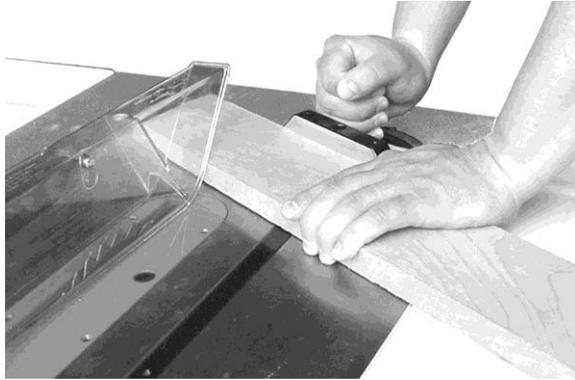

Figure 8-12
**Mitering** – Crosscuts made at an angle to the edge of the workpiece are called miters (Figure 8-12). Set the miter gauge at the required angle, lock the miter gauge, and make the cut the same as a normal crosscut except the workpiece must be held extra firmly to prevent creeping.